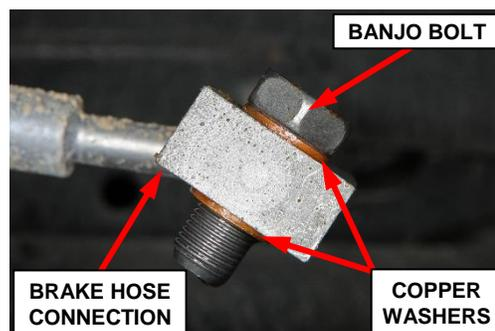

Figure 4 - Brake Hose Connection Washers
6. Remove and **DISCARD** the two copper washers on either side of the brake hose connection (Figure 4).